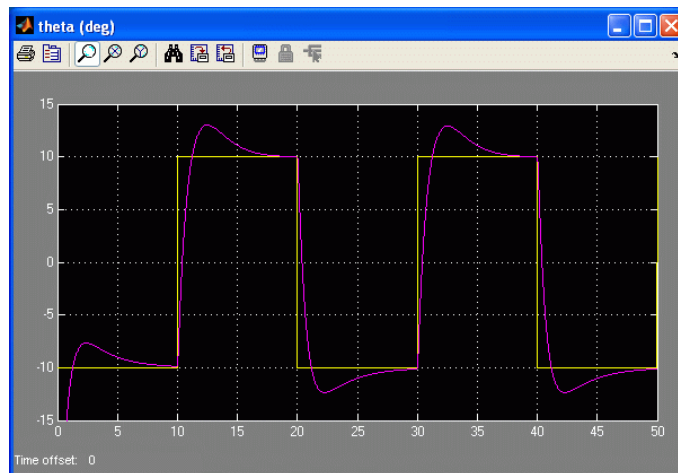
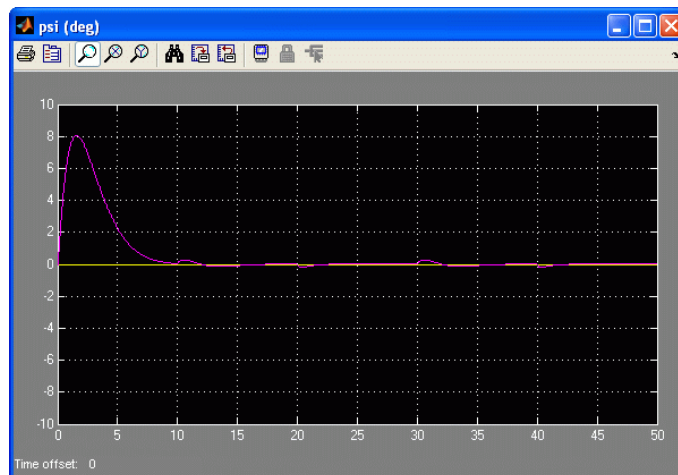
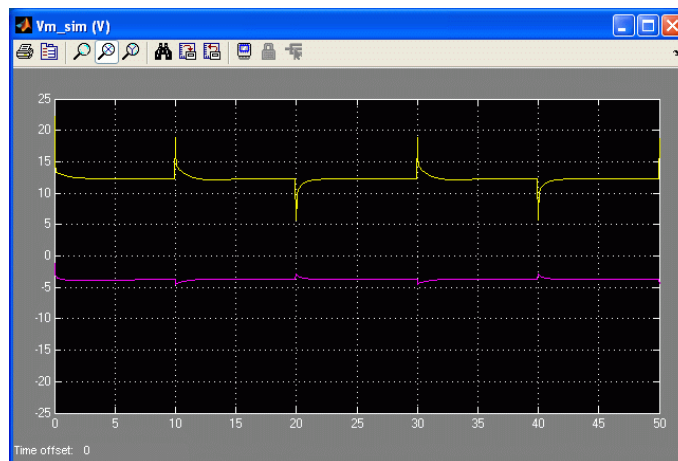

Figure 5.9: Simulated pitch response under pitch reference step using LQR+I
Figure 5.10: Simulated yaw response under pitch reference step using LQR+I
Figure 5.11: Simulated front and back motor voltage under pitch reference step using LQR+I
10. Ensure the pitch scope, θ (deg), the yaw scope, ψ (deg), and the motor input voltage scope, V_{m_sim} (V), are open. If not, go into the *Scopes* subsystem and double-click on those sinks.
12. Click on the *Start* simulation button, or on the *Start* item in the *Simulation* menu, to run the closed-loop system using LQR+I and the scopes should read as shown in Figure 5.9, Figure 5.10, and Figure 5.11. In each scope, the simulated pitch and yaw angles (purple trace) should track the corresponding desired position signals (yellow trace). Also, examine the voltage in the V_{m_sim} (V) scope and ensure the front (yellow plot) and back motor (purple plot) are not saturated. Recall that the maximum peak voltage that can be delivered to the front motor by the VoltPac amplifier is ± 24 V.